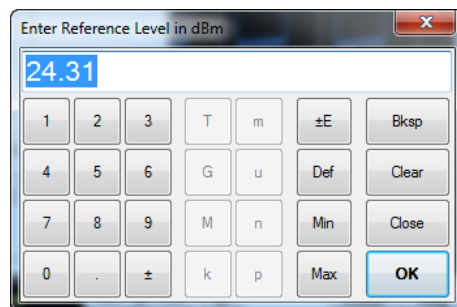

Figure 2-15 Reference level keypad dialog for the RF input channel
- 9 The reference level keypad dialog for the RF input channel is displayed as shown in Figure 2-15.